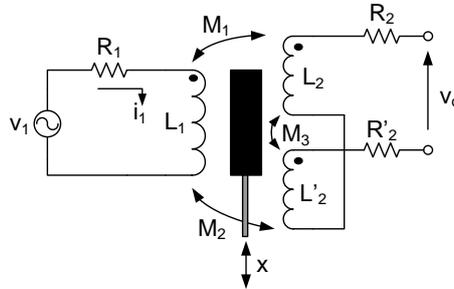

Figure 3: LVDT sensor.
An active suspension system measures the displacement between the wheels and the car body. This can be done using a linear variable differential transformer (LVDT). The sensor uses the magnetic coupling between a primary and two secondary coils to measure the displacement of a ferromagnetic core. Figure 3 shows the electrical equivalent circuit of a LVDT sensor that is connected to a voltage supply v_1 with a frequency of 1000 Hz and an amplitude of 10 V. At this excitation frequency, a phase shift of $+45^\circ$ occurs between the input voltage and the output voltage of the sensors. There is no load connected to the output of the sensor.
- (5p) (b) A sinusoidal voltage supply v_1 with a frequency of 1000 Hz and an amplitude of 10 V is connected to the primary winding of the LVDT sensor shown in Figure 3. At this excitation frequency, a phase shift of $+45^\circ$ occurs between the input voltage and the output voltage of the sensors. The sensor has a sensitivity of 0.1 V/mm. Assume that the ferromagnetic core moves with a triangular movement of 100 Hz between $x = -20$ mm and $x = +20$ mm. Draw the excitation voltage on the primary winding ($v_1(t)$), the displacement ($x(t)$) of the ferromagnetic core, and the output voltage ($v_o(t)$) of the sensor. (Clearly show the dimension and units on all axis.)